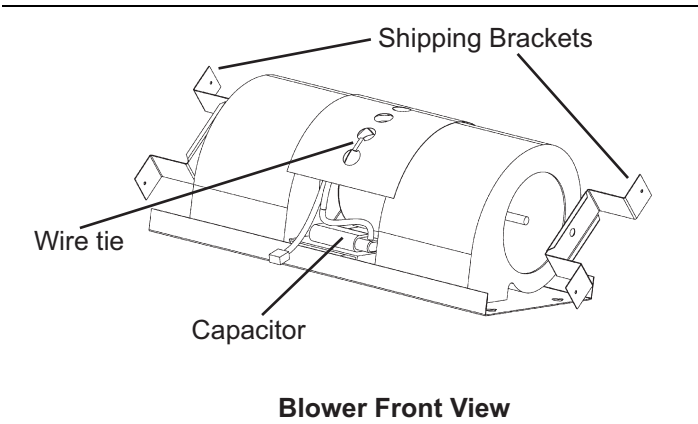

Figure 13: Blower Front View
2. Cut wire tie shown in Figure 13. Locate the wire harness with the Molex 6-pin connector. Route wire harness out rear of blower, as shown in Figure 14 below.